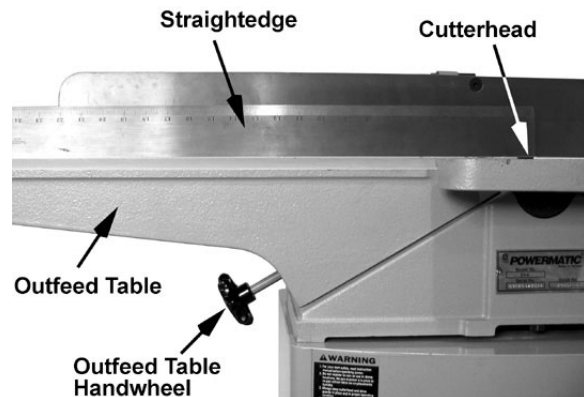
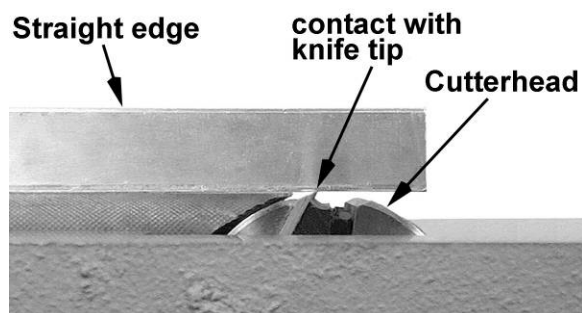

Figure 21
Figure 23
3. Place a straightedge upon the outfeed table and extend it over the cutterhead (Figures 21 and 23).
6. With the *outfeed table handwheel* (Figure 21) raise or lower the *outfeed table* until the *straight edge* contacts the *knife tip*, as shown in Figure 23. Using the drive belt or pulley, rock the cutterhead slightly to make sure the apex of the knife is just barely contacting the *straight edge*.